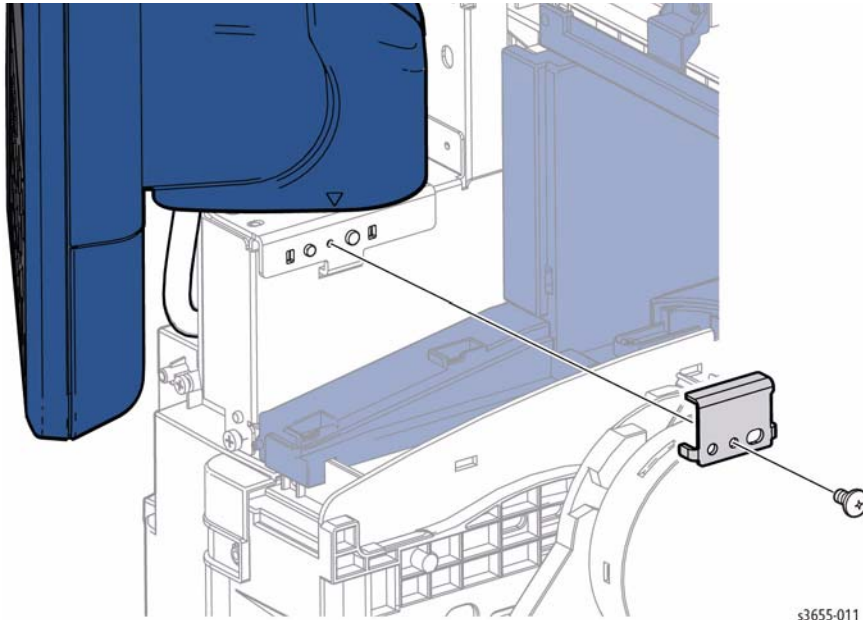

Figure 1 Remove the UI Swivel Stop
10. Refer to Figure 1 to locate and remove 1 screw (silver, M3, 6mm) that secures the UI swivel stop.